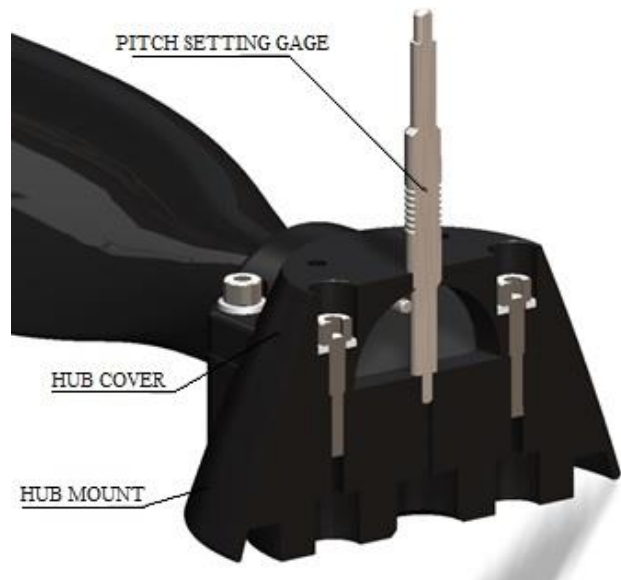

FIGURE 4. PITCH SETTING GAGE
7. Rotate both blades to a high pitch and slide the pitch setting gage into the center receiver hole. Rotate each blade to a low pitch until the blade pins contact the pitch setting gage. See **Figure 4**.